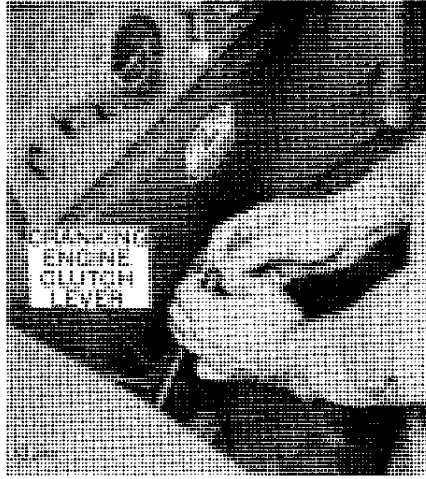

Figure 10-10-3—Operating Cranking Engine Clutch Lever
(4) Slowly pull the cranking engine clutch lever all the way to the rear (Figure 10-10-3).